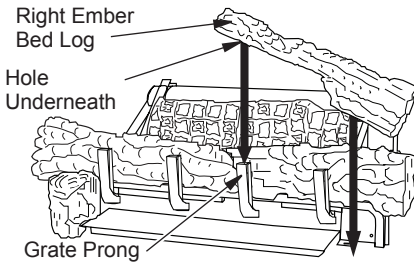

Figure 28 - Installing Right Ember Bed Log
4. The right ember bed log 24" & 30" (D-047) has a hole in the log that sets on the grate finger and the other end rest on the fireplace floor, place log as shown in Figure 28. The right ember bed logs for 18" (D-072) has a groove on the side that sets on the ember bed pan and the back of the log needs to rest against the front of the base. Make sure the flame from the ember pan does not touch the ember bed log. The back side of this log needs to rest against the front of the base assembly, make sure the flame from the ember pan does not touch the ember bed log.